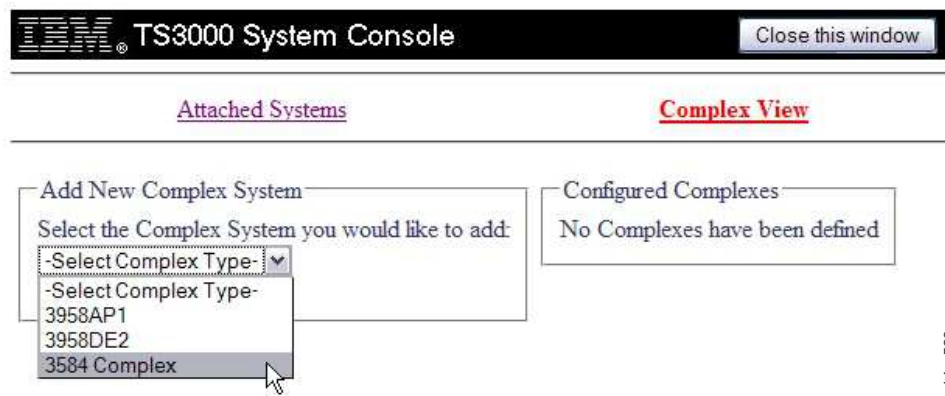

Figure 70. 3584 Complex Screen.
5. Click the **Complex View** link in the upper right corner. You see the screen that is shown in Figure 70.